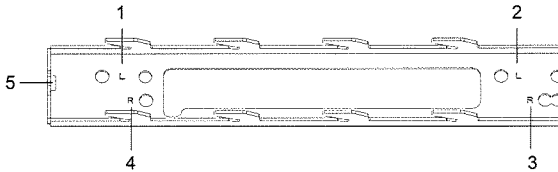

Figure 6
- 3.1 As digit 5(show in figure 6) indicates nut faces aisle
- 3.2 Select 2 holes of "R" type(show in figure 6) and align to mounting bracket screw hole and lock the bolt
- 4.1 As digit 5(show in figure 6) indicates nut faces aisle
- 4.2 Select 2 holes of "L" type(show in figure 6) and align to mounting bracket screw hole and lock the bolt